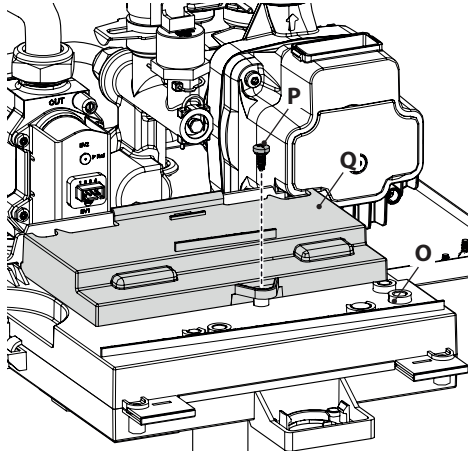

Figure 5.23
- Turn the control panel **O**, as shown in Figure 5.23.
- Unscrew the screw **P** and lift the cover **Q** to access the electric power supply terminal block, remote and external sensor (Figure 5.23).